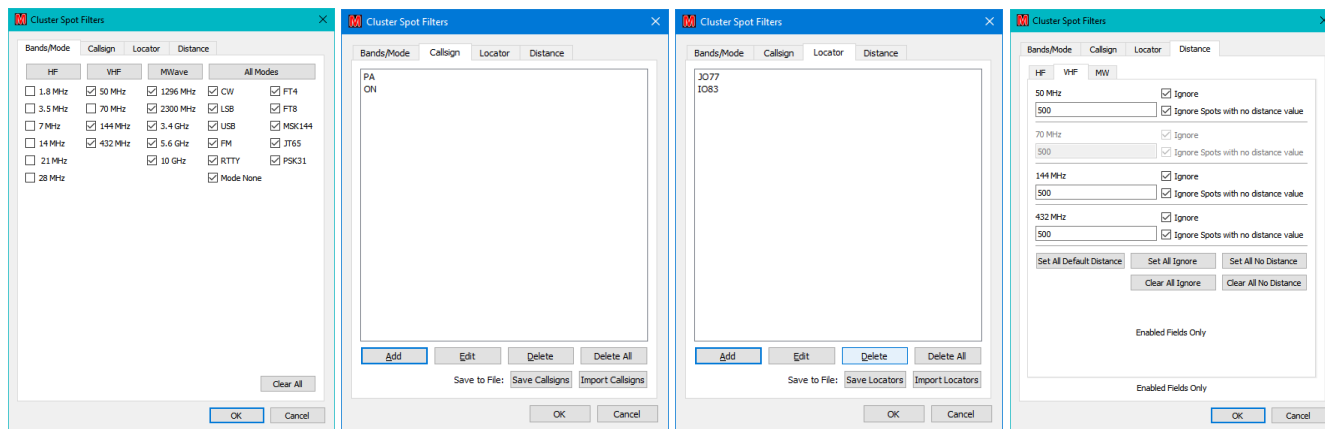

Figure 132 – Setting up filters
The content of the display can be controlled by clicking the “**Filters**” button and adjusting the Band/Mode of interest or the callsigns/locators to be watched and the distance constraints (see Figure 132).
The Distance filters further restrict the spots displayed on the basis of the specified maximum ranges¹²⁶. Note in Figure 132 (4) that the 70MHz box is disabled because 70MHz is not selected in in Figure 132 (1).